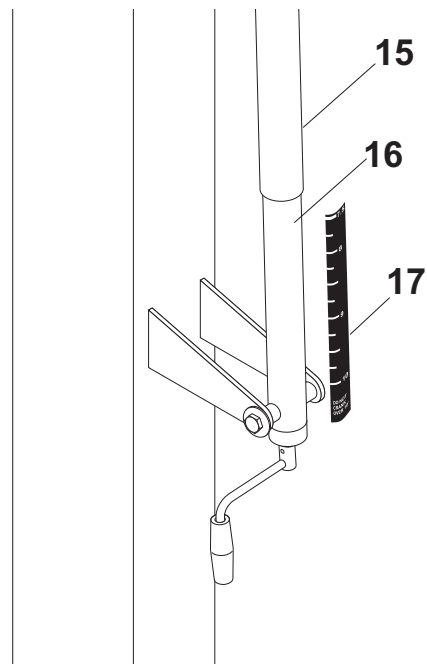

Figure 16
29. Adjust unit to 7-1/2 feet. Use a tape measure to measure from the top of the rim to the playing surface. Stick Height Decal (#17) to back of actuator (#16) with the "7.5" mark aligned with bottom of Actuator Sleeve (#15). See Figure 16.